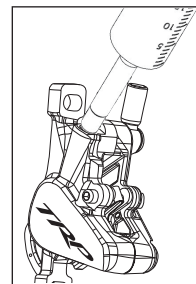

Fig 8
- Attach the plastic tube with knurled silver bleed fitting to syringe. (Fig.8)